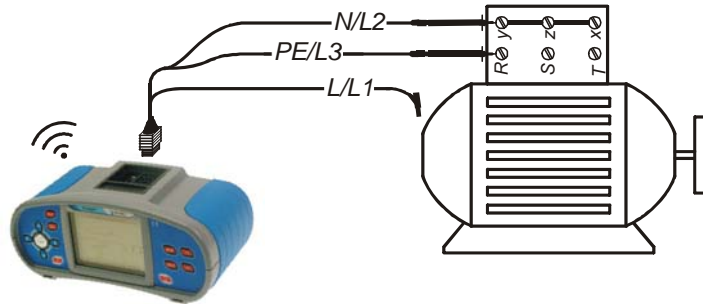

Figure 5.8: Universal test cable application
- ❑ **Connect** test leads to the tested object (see *figure 5.8*).